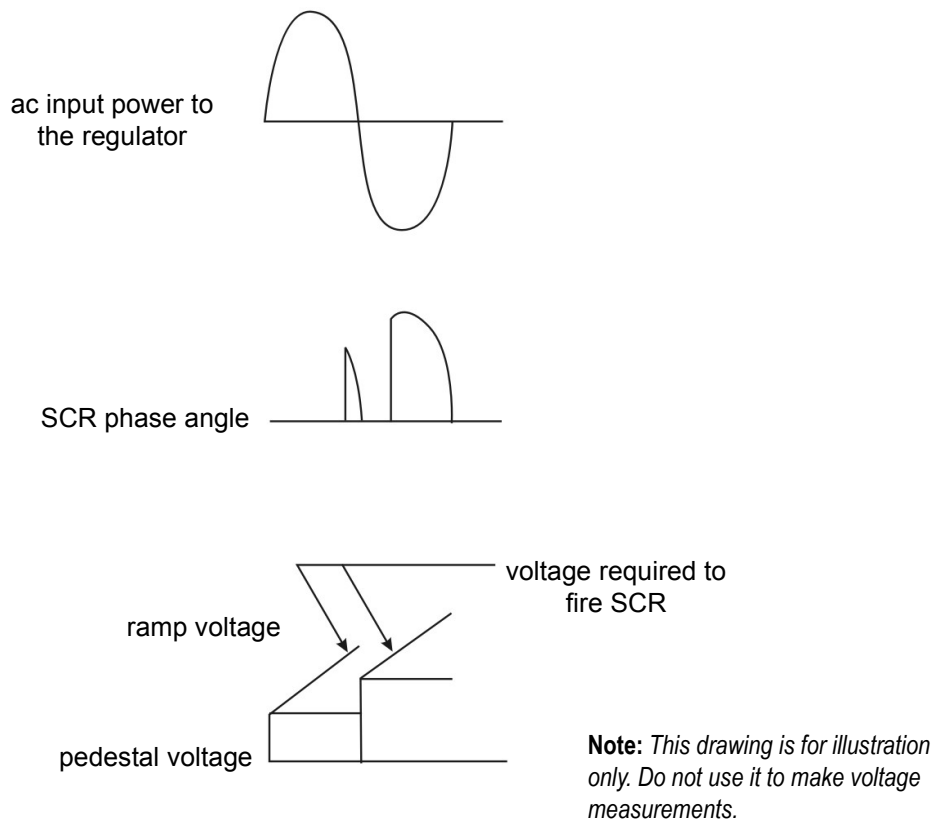

Figure 2: Effect of timed gating signal on SCR phase angle
The phase control circuit is a "ramp-and-pedestal" control that regulates the phase angle of the power controller circuit SCRs by controlling the "turn on" signal it supplies to the gate of the SCRs. An exponential ramp voltage that starts from a voltage pedestal provides the "turn on" gating signal. Because the ramp voltage starts from the voltage pedestal, a small change in the amplitude of the pedestal voltage results in a large change in SCR phase angle as shown in Figure 2.
- 1) For single-phase sensing, terminals are E1 and E3. See Figures 2 and 3.
- 5) A current transformer is required for generators operating in parallel. The connection is shown on this drawing: 1 A current transformer and reactive voltage droop compensation. See Figures 2 and 3.
From sensing transformers. See Figures 2 and 3.
To voltage range adjust and voltage adjust. See Figures 2 and 3.
From stability control. See Figures 2 and 3.
From sensing choke. See Figures 2 and 3.